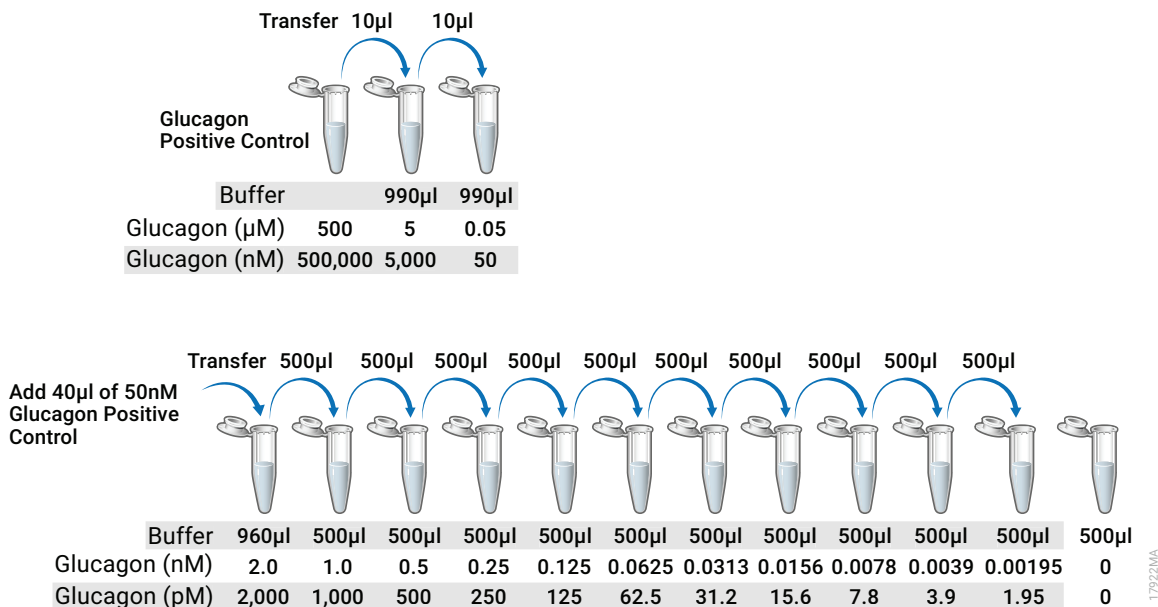

Figure 3. Glucagon positive control dilution series.
4. Prepare an initial concentration of 5 μ M glucagon by diluting the glucagon positive control 100-fold into the same buffer solution as the test samples. Follow this with an additional 100-fold dilution and 25-fold dilution. Recommended volumes are below (see Figure 3).